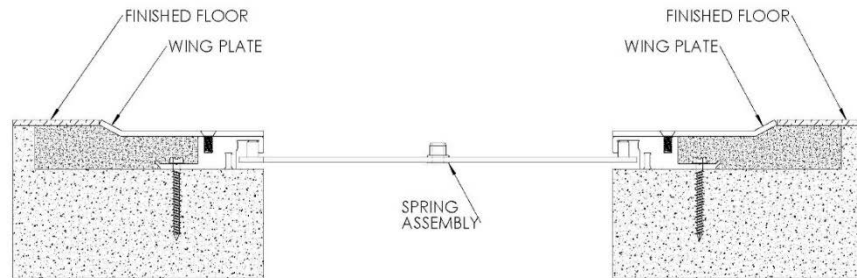

FIGURE 6
- Lay cover plate over the left base frame with ends flush and mark cover plate center holes onto the base frame near the inside edge. Repeat this on the right side. Position the spring assembly in the spring track on the base frames. This is done by sliding the spring assemblies in from the ends of the frames and aligning them with the marked locations. The spring assemblies will be diagonal to the opening. Tape may be needed to hold the spring assembly in place. **See Figure 6**